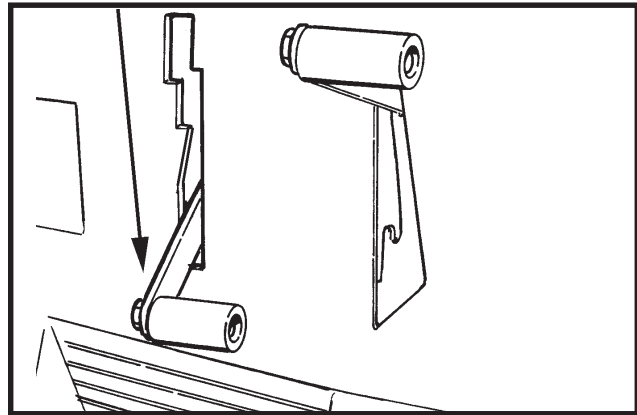

Figure 16
1. To lower the squeegee and start the vac motor, move the squeegee lever to the right and down. See figure 16.